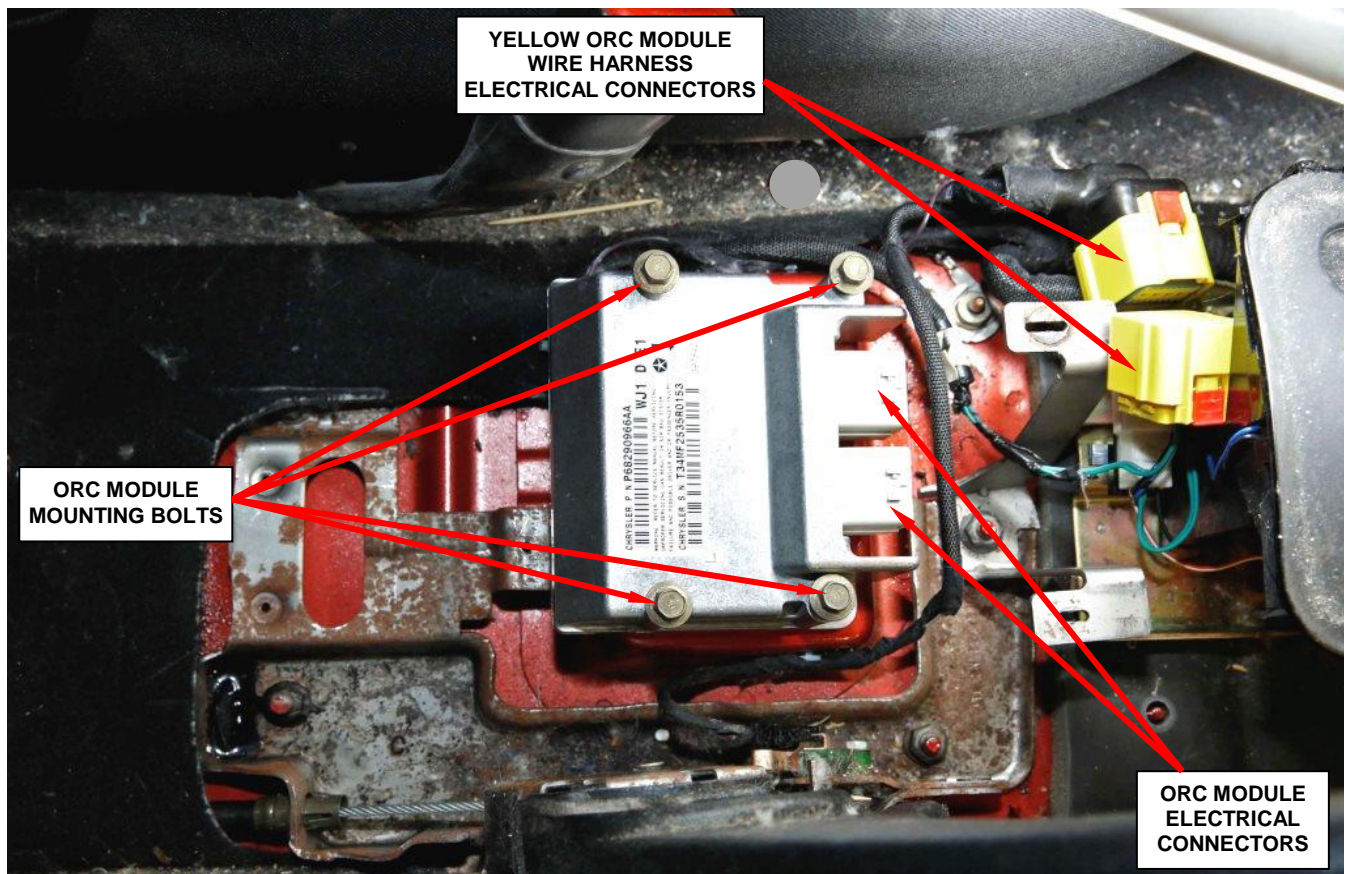

Figure 18 – Install New ORC Module
6. Place the new ORC module into position and install the mounting bolts (Figure 18). Tighten the bolts to 95 in. lbs. (11 N·m).